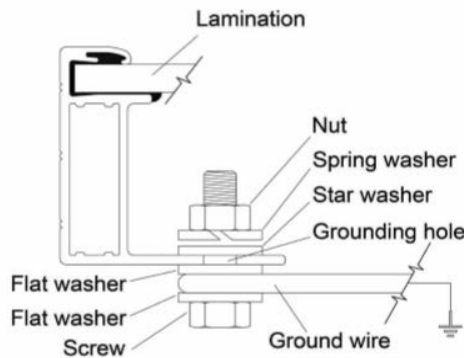

figure 1
- Use M4 bolt and washers to bond the ground wire and aluminum frame through the grounding holes (as shown figure 1). The tightening torque is 3-7N.m. All nuts and washers should be made of stainless steel.